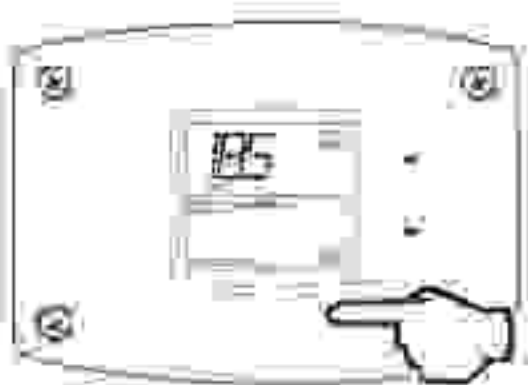

Fig. 47
2. Press 'Set' button to enter setting mode. 'MaxSetpoint' will flash to indicate setting mode (Fig. 47).